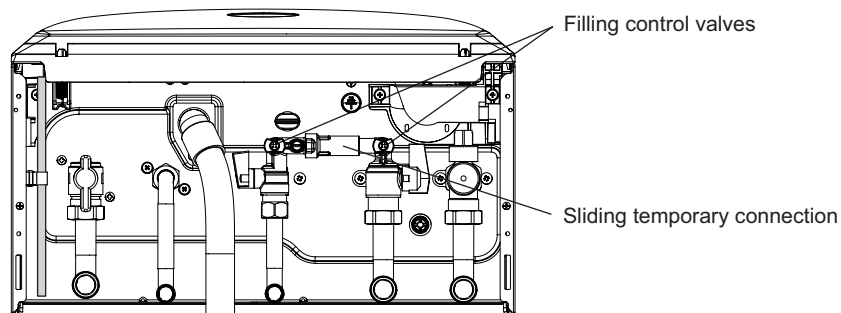

Fig. 4.6
4.8 FILLING THE CENTRAL HEATING SYSTEM - Fig. 4.6